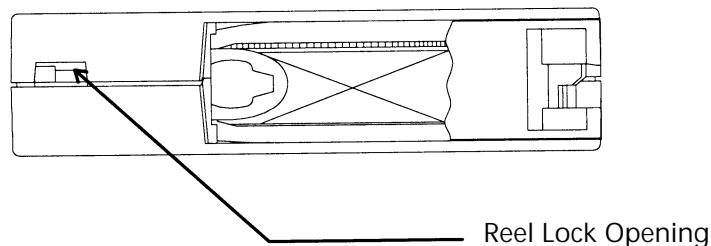

Figure 1 Location of One of the Two Reel Lock Tabs on the DLTtape Cartridge
4. Hold the tape cartridge so that the end of the cartridge that is inserted into the DLTtape drive is facing you, as shown in Figure 1. You will see that there is a small opening on the left-hand side of the tape cartridge.